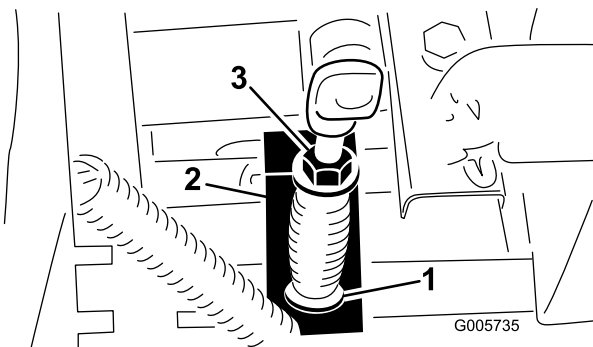

Figure 68
3. Measure length of PTO spring between flat-washers (Figure 68). There should be a spring length of 3-3/16 inches (81 mm).
4. To adjust, hold head of adjusting screw with wrench (under PTO actuating arm) and turn locknut (Figure 68).